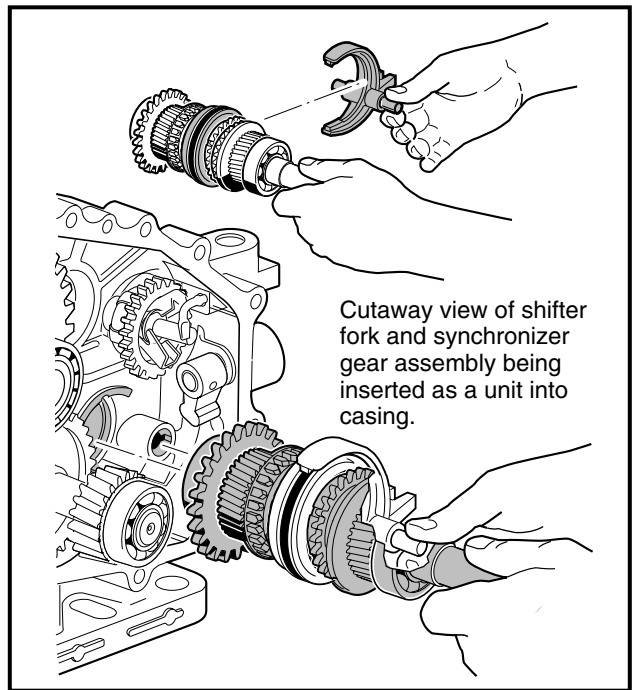
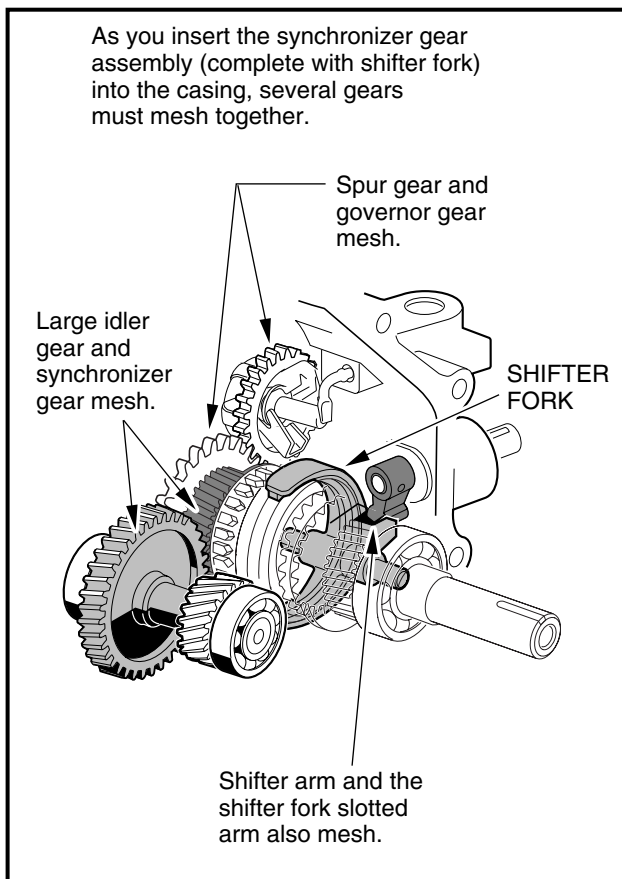

Figure 19-52 Synchronizer Ring Gear
Figure 19-53 Gear Alignment
- 7.4. Position the shifter fork assembly on the synchronizer gear assembly and install them together, bearing end first, into the bore containing the oil guide (**Figure 19-52, Page 19-25**). Do not seat the assembly, but make sure the spur gear (43) is meshed with the governor gear (66) (**Figure 19-14, Page 19-10**), and the shifter lever (19) (**Figure 19-6, Page 19-6**) is positioned in the bracket on the shifter fork. **See also Figure 19-53, Page 19-25.**